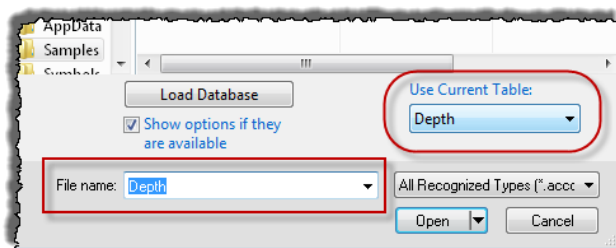

Figure 1.170 – Select the *Depth* table in the *Use Current Table* section and make sure it is selected in the *File name* box.
3. In the *Open* dialog, make sure that *Depth* is selected in the *Use Current Table* option and in the *File name* box, fig. 1.170.